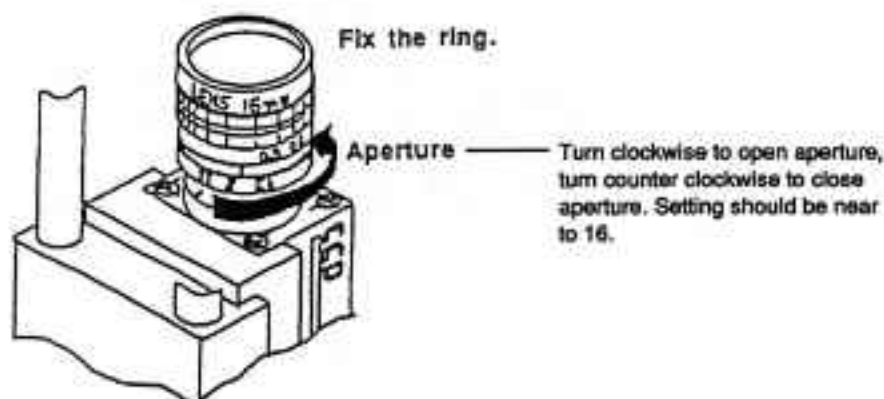

Figure 8.2.3.4.1. Camera lens brightness adjustment
- Step 3:** Look at your vision monitor while **slowly** opening the aperture ring. Do this very slowly as the distance that you have to move is very minor. On the vision monitor the background will start changing colors. The aperture must be set in such a way that the color RED is shown as much as possible on the side where the light is the most bright (this is usually on the right side of the monitor). Towards the left on the vision monitor the red color should change into a red-green, green, greenish-blue color. When set correctly, the aperture ring will be set near to an aperture of 16. Refer to figure 8.2.3.4.1. for the lens adjustment, refer to figure 8.2.3.4.2. for the vision monitor screen appearance.